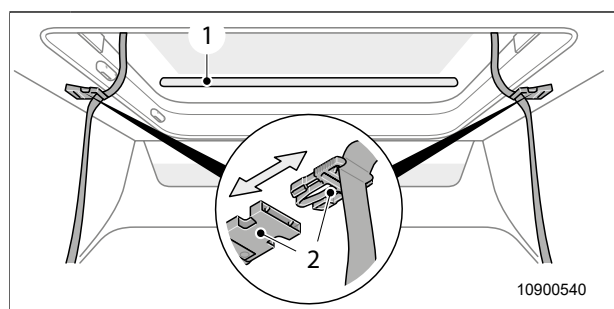

Fig. 37 Opening the pop-up roof
3. Open the quick-release buckles (Fig. 37, item 2) on the right and left side.
5. Press the pop-up roof upwards by the handle bar (Fig. 37, item 1). The roof must not tilt.